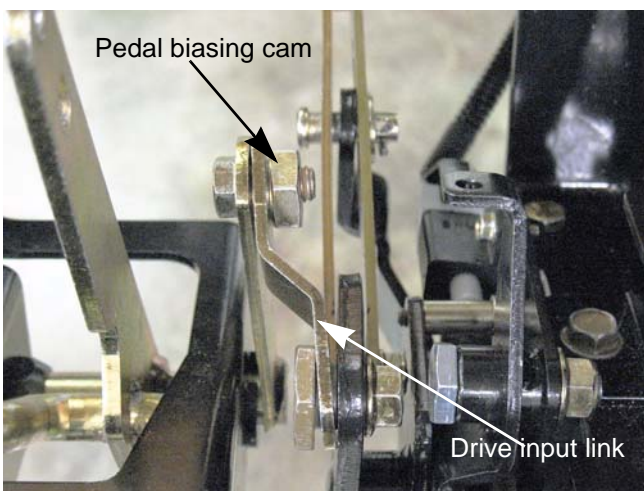

Figure 6.11
- 7 Disconnect the front side of the drive input link using a 9/16" wrench and a 15/16" wrench. See Figure 6.11.